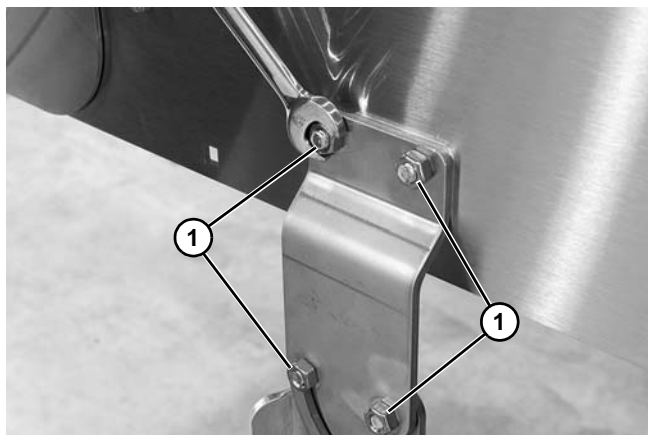

Figure 61
18. Remove fasteners (**Figure 61, item 1**) securing the stand brackets from one side of the conveyor and remove brackets.